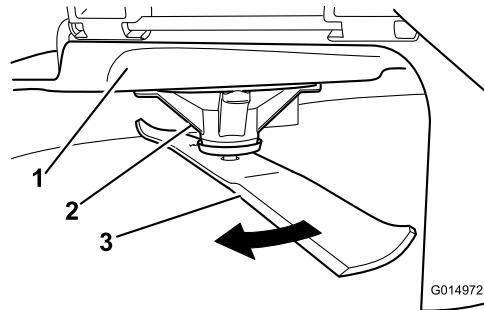

Figure 53
2. While wearing thickly padded gloves, or other adequate hand protection, slowly rotate the blade to be measured into a position that allows effective measurement of the distance between the cutting edge and the level surface the machine is on (Figure 53).